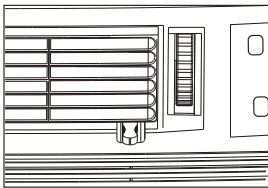

Figure 1 (VENT CLOSED)
1. Recirculate inside air - Vent Closed (See Fig.1)